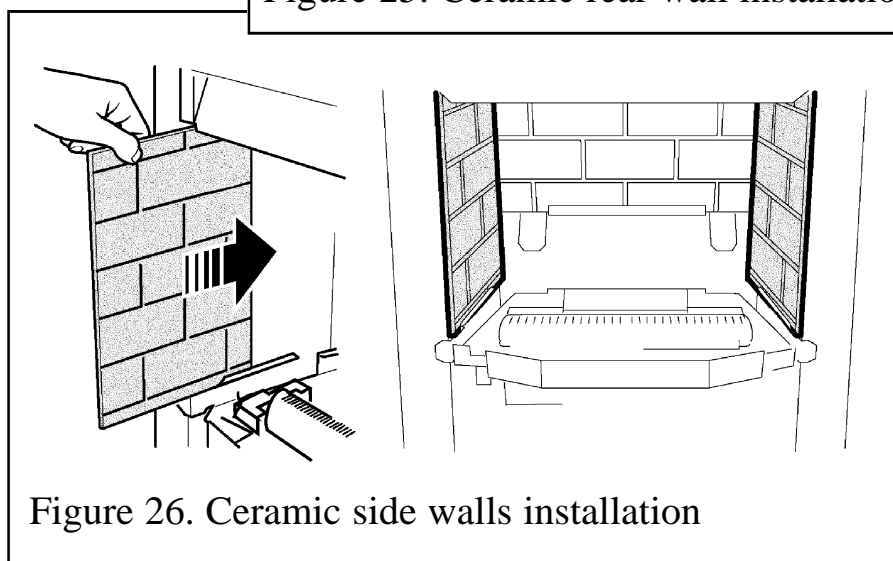

Figure 26. Ceramic side walls installation
2. Fit the ceramic side walls against the side faces of the burner compartment. The bottom edges of the walls should rest in the ledges at the sides of the firebox. Slide them in from the front and ensure that they touch the rear wall. Be careful not to damage the edges of the side walls (See figure 26).